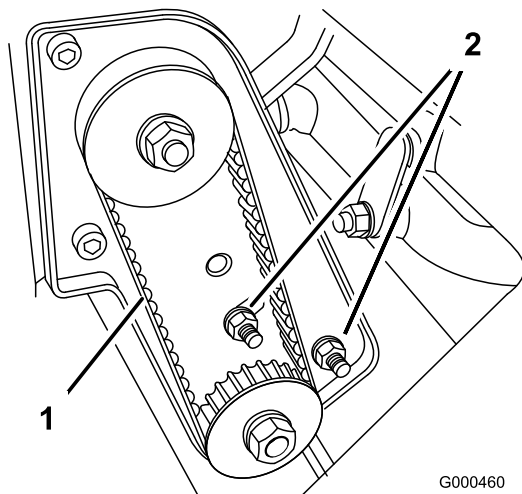

Figure 38
A. Loosen the bearing housing mounting nuts (Figure 38).
C. While holding the torque wrench setting, tighten the bearing housing mounting nuts (Figure 38). Do not over-tension belt.